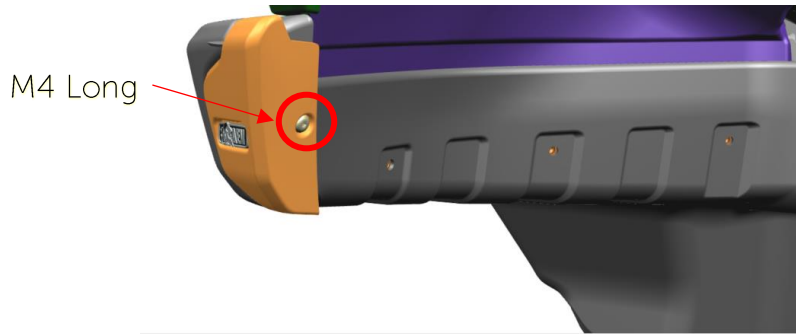

Figure 3 – Driver AEV Corner End Cap
- a. Using [1] M4 Bolt Long (T15 Socket) 11611884 per side, install end cap through AEV Wheel Liner Closeout and bumper - Fig. 3